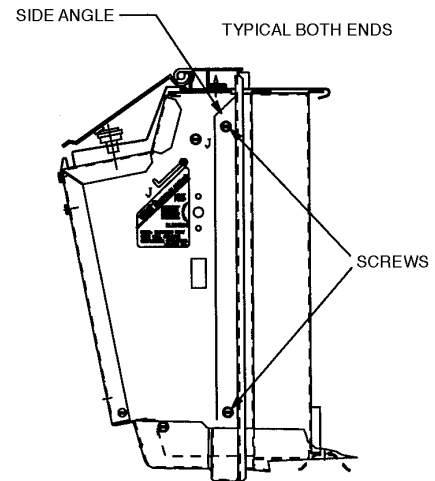

FIGURE 25 — SIDE ANGLE SCREWS
3. Remove each side angle from unit with a $\frac{5}{16}$ -in. nut driver. See Figure 25.